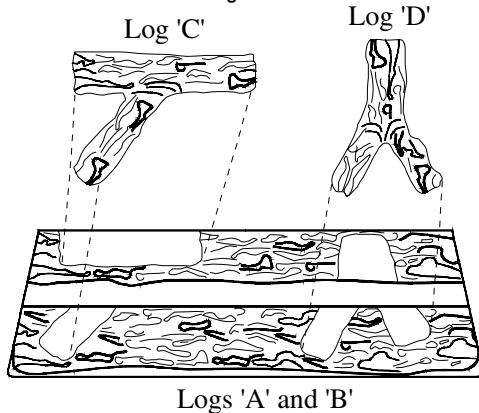
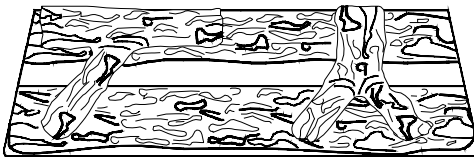

Figure 22a. Log placement.
Figure 22b. Completed log installation.
The MW38-DV is supplied with four (4) fibre logs. Logs "A" and "B" are permanently attached to the log rest, which is pre-installed by the factory. To install the two small logs ("C" and "D"), simply place them onto their mating positions as shown in figure 22a below. When log set is installed it should look like figure 22b.